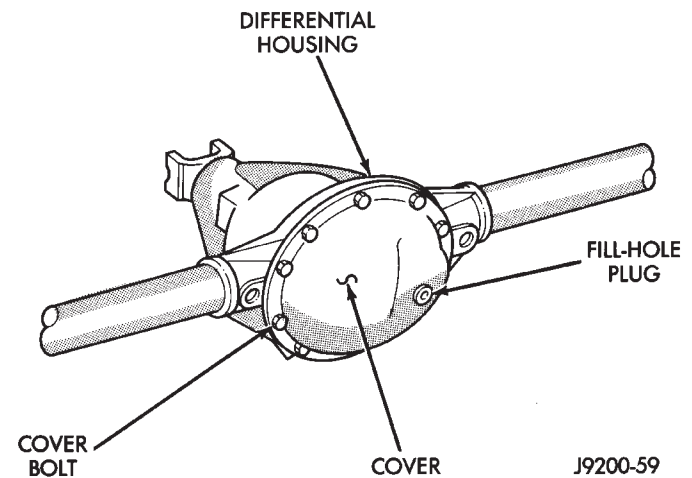

Fig. 10 Rear Axle—Typical
(1) Raise and support the vehicle.
(2) Remove the fill-hole plug (Figs. 10 and 11) from the axle differential housing cover. The gear lubricant should be 13 mm (1/2 inch) below the bottom edge of the fill hole.